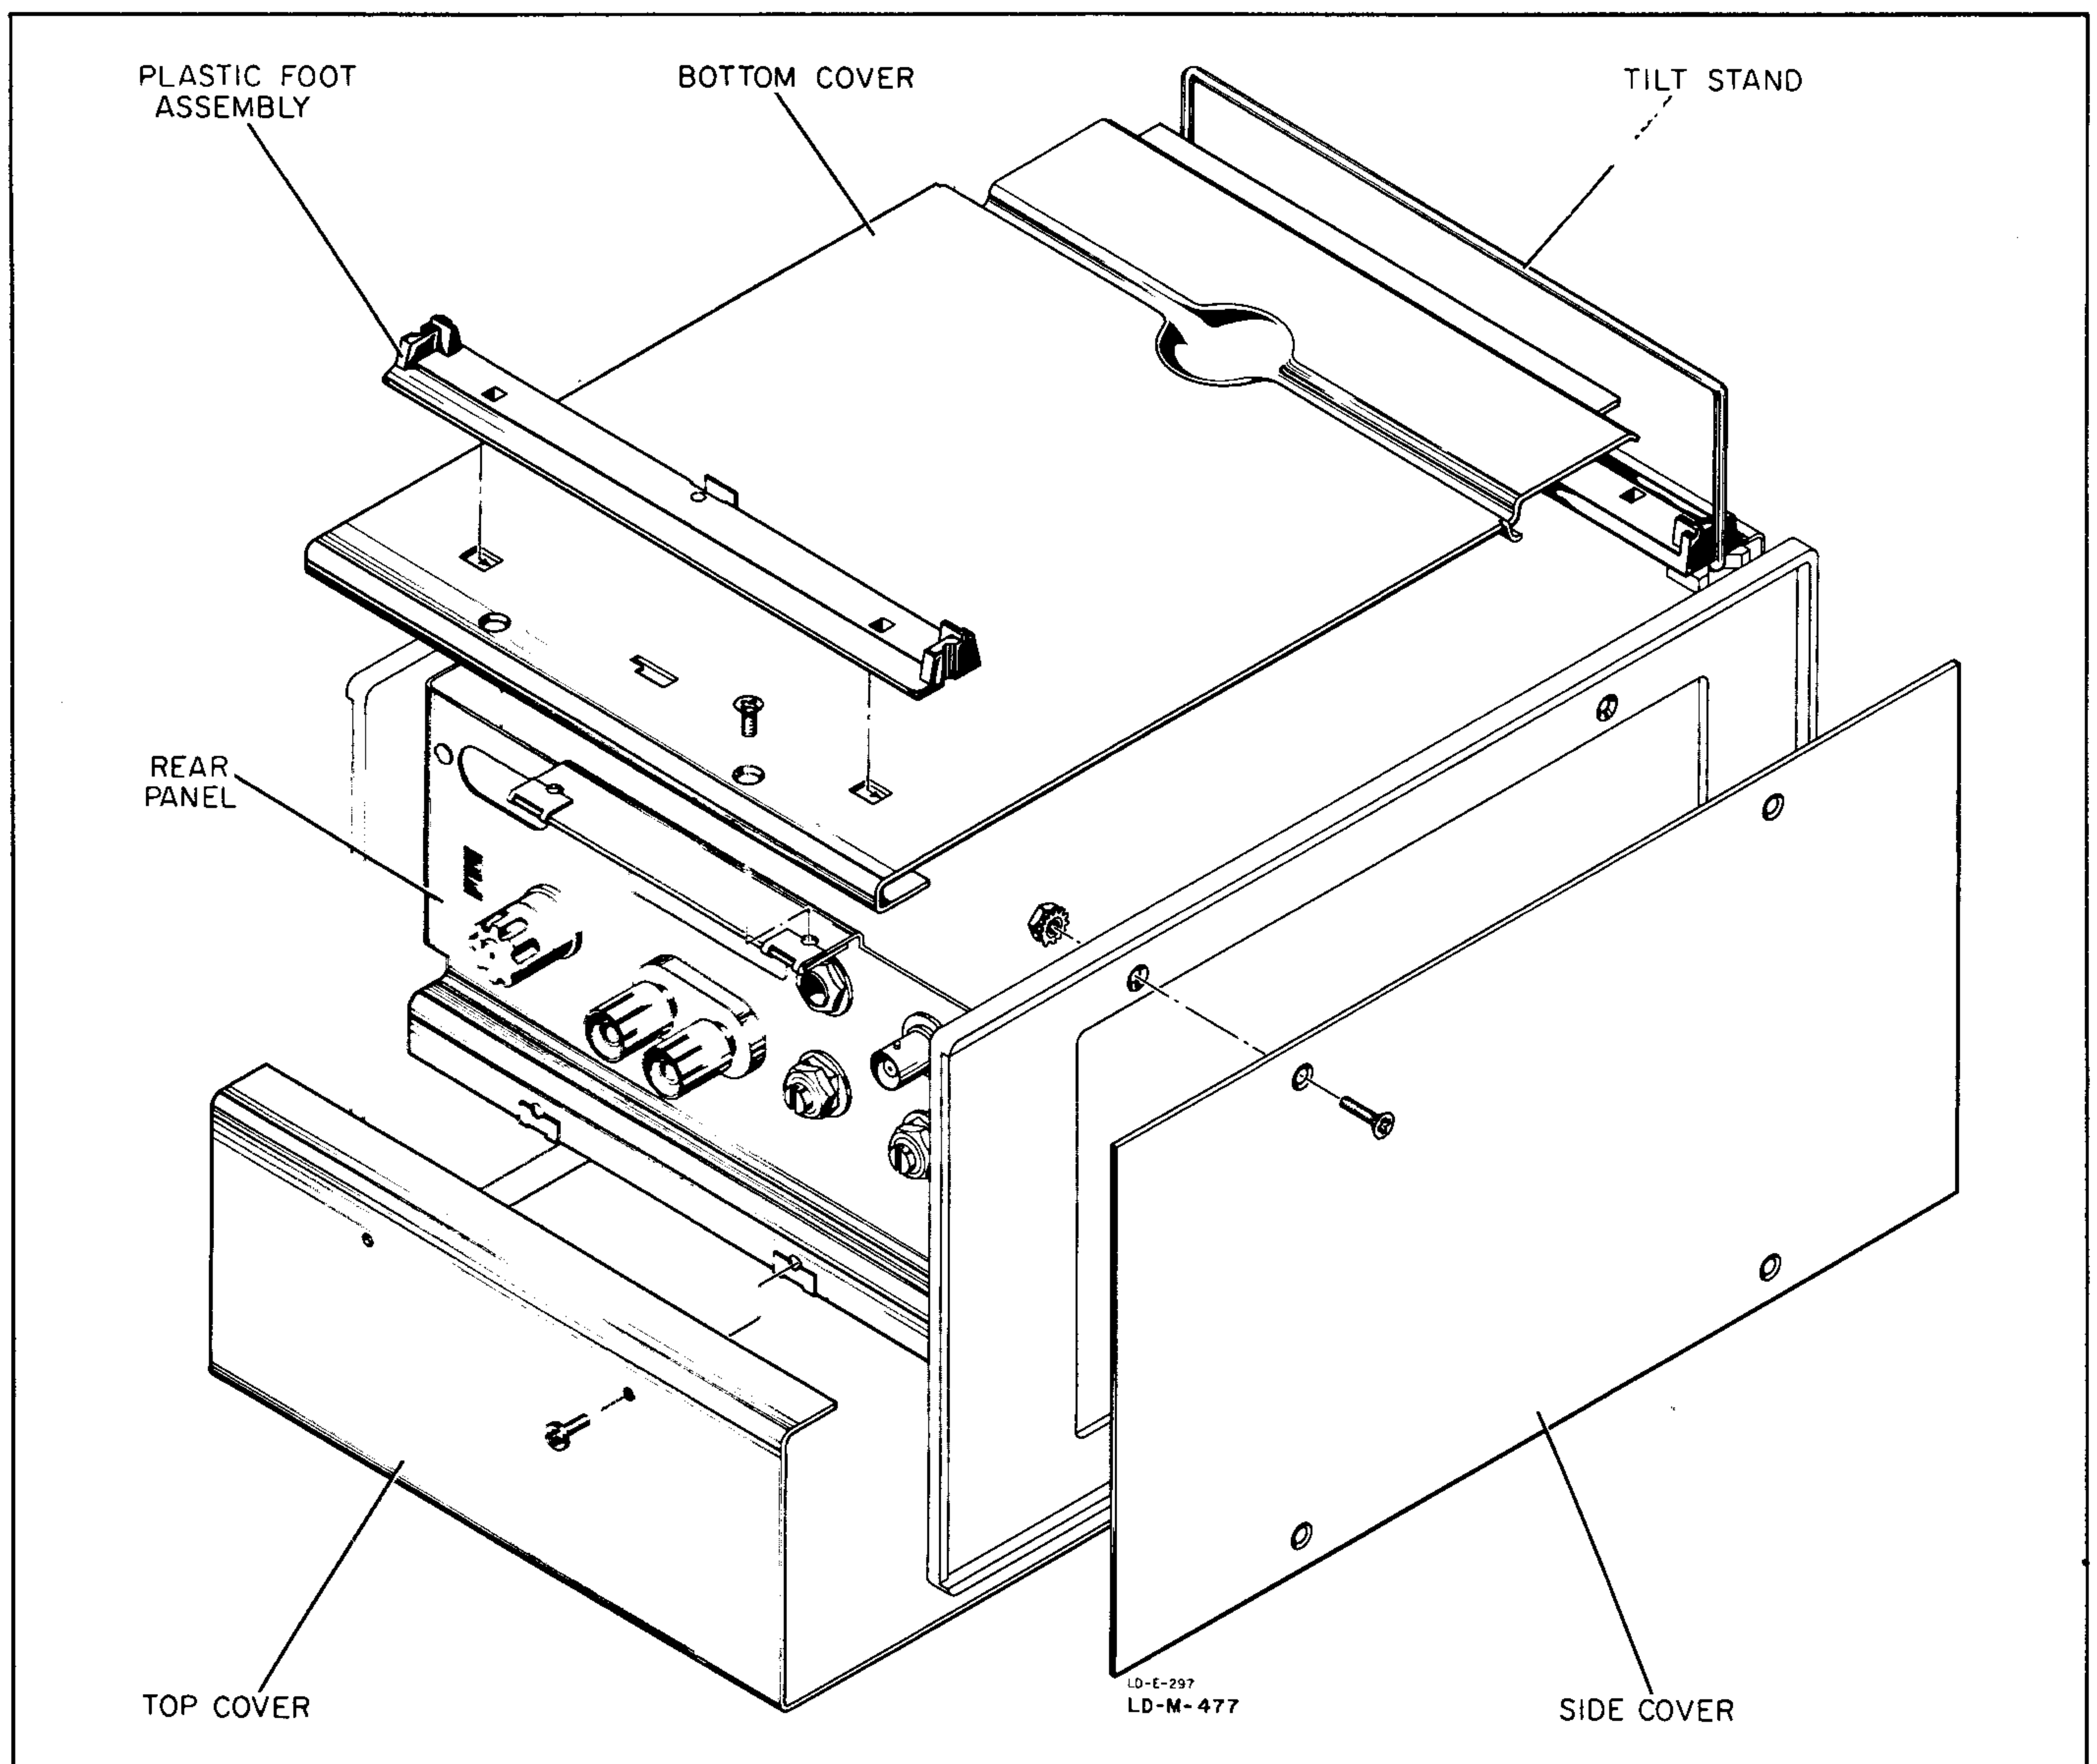

Figure 5-2. Removal of Instrument Covers
5-10. Figure 5-2 shows how to remove the Model 415C instrument covers. The etched circuit board components are accessible by removing only the top cover. The top and bottom covers must be removed to reach the nuts on the bolts holding the side covers. It should only require removal of the top and bottom covers for access to any components or test points in the test or adjustment procedures. The side panels must be taken off to remove or install a battery. If a check or adjustment is to be made with the power turned on, remove necessary instrument covers first.
- Remove all instrument covers as shown in figure 5-2.